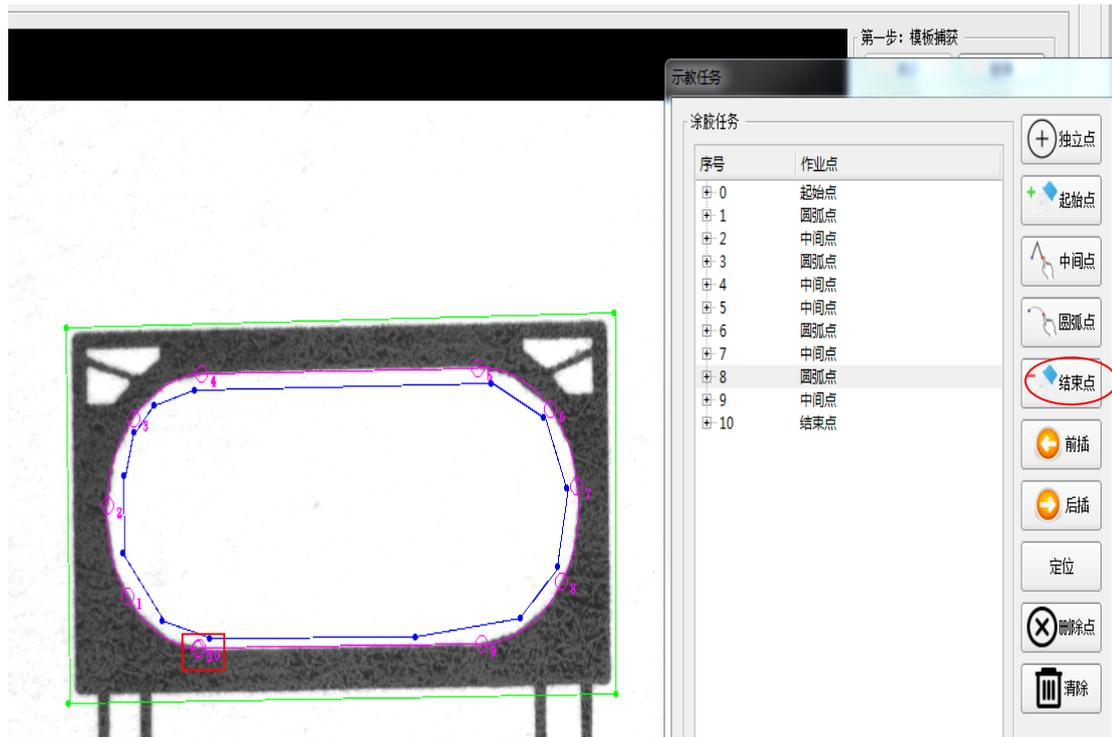

Figure 39 Ending point adding
11) Add the ending point near the starting point, as shown in figure 39;